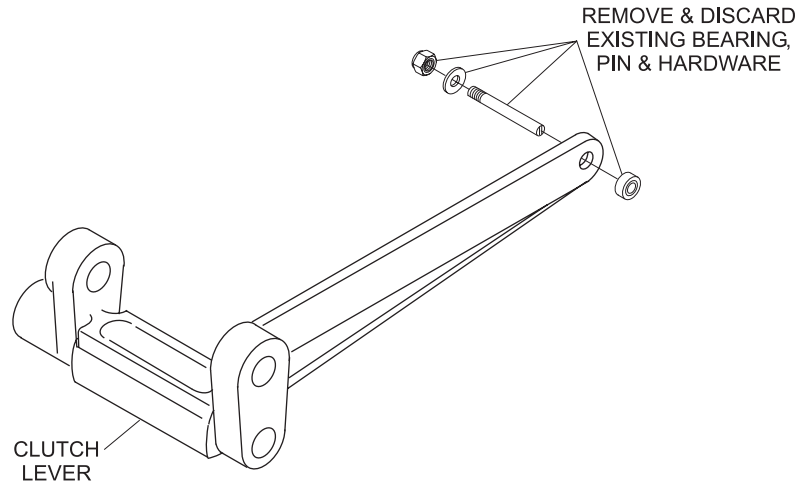

Figure 1
- Remove existing clutch bearing (P/N 11-435501-000) and pin (P/N 12-100318-002). Refer to *Figure 1*.